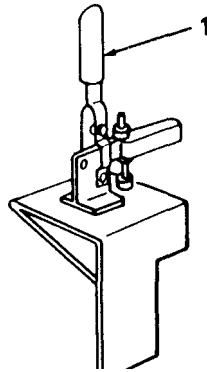

Figure 3-4. Hose Retaining Bracket, Lubrication.
d. Hose Retaining Bracket. (figure 3-4)